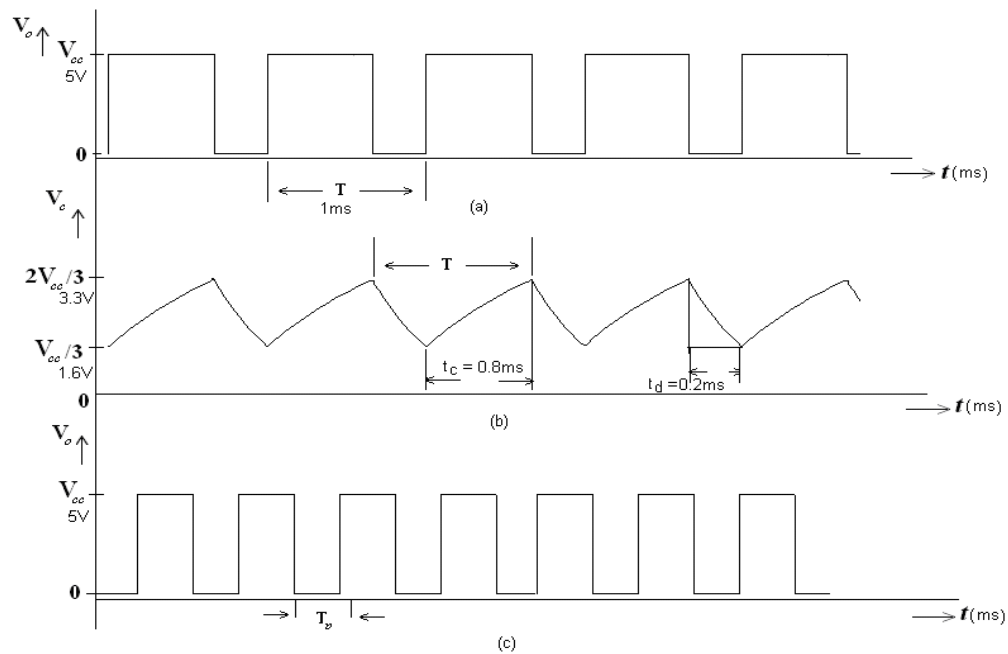

Fig 4 (a): Unsymmetrical square wave output
2. Observe and note down the output waveform at pin 3 and across timing capacitor as shown in Fig 4(a) and (b).
3. Observe the o/p waveform as shown in Fig 4(c), measure frequency of oscillations and the duty cycle and then sketch the o/p waveform.